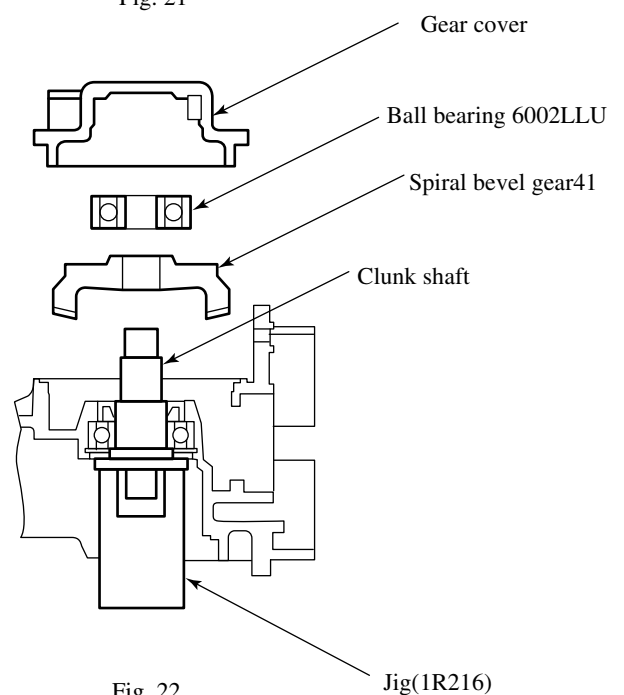

Fig. 22
4) Fixing Clunk shaft steadily by Jig 1R216, press in Spiral gear 41 and Ball bearing 6200LLB. After that, install Gear cover. ( See Fig.22)